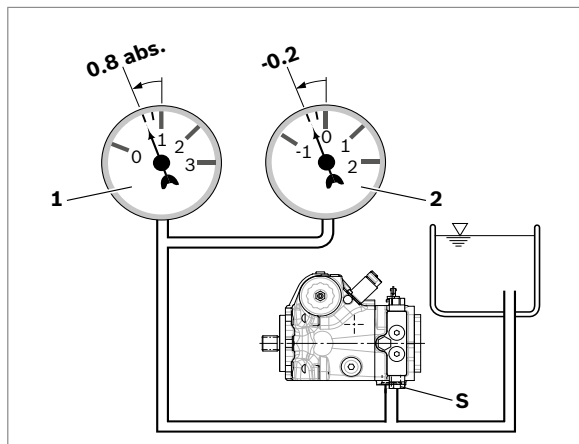

Fig. 8: Suction pressure
- ▶ Make sure that a minimum suction pressure of 0.8 bar absolute is present at port **S** (0.5 bar abs. for cold start) during operation in all installation positions and installation locations for the axial piston pump, see Fig. 8. See data sheet for other pressure values.